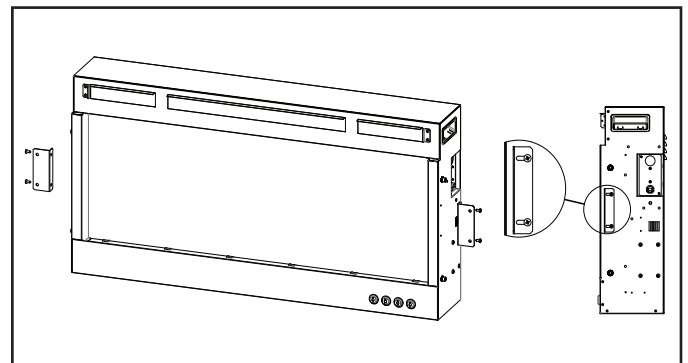

Figure 4.3 Fixing Brackets Attachment for Recessed Mounting in 2 X 6 in. Framing
2. Verify that the Fixing Brackets are securely attached to the appliance with four (4) ST4X10 screws and washers. See Figure 4.3. The attachment holes for the brackets into the appliance are slotted to allow adjustment for the thickness of the wallboard and/or any finishing materials up to a total 5/8 in. thick. It may be necessary to test fit the appliance and adjust the location of the brackets on the appliance so that the front face of the unit protrudes 1/16 to 1/8 in. from the outside face of the finished wall. See Figure 4.4 and 4.5.